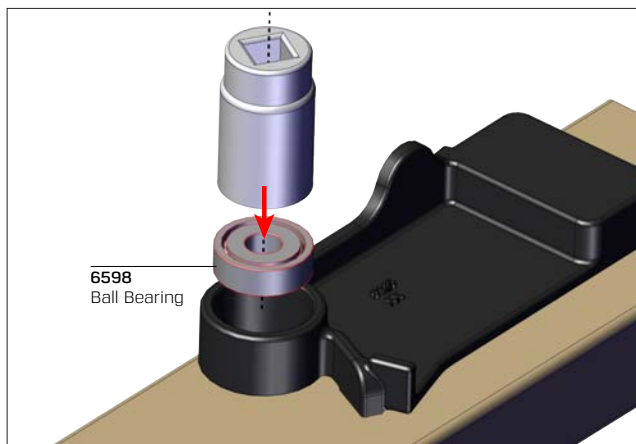

Fig. 10.
- A. With counterweight on flat surface, place new #6598 ball bearing in the bore. Using same socket and hammer that were used to remove old bearing, press new bearing into bore (see Fig. 10). Make sure bearing is centered. Fill both sides of bearing with #9821 grease.